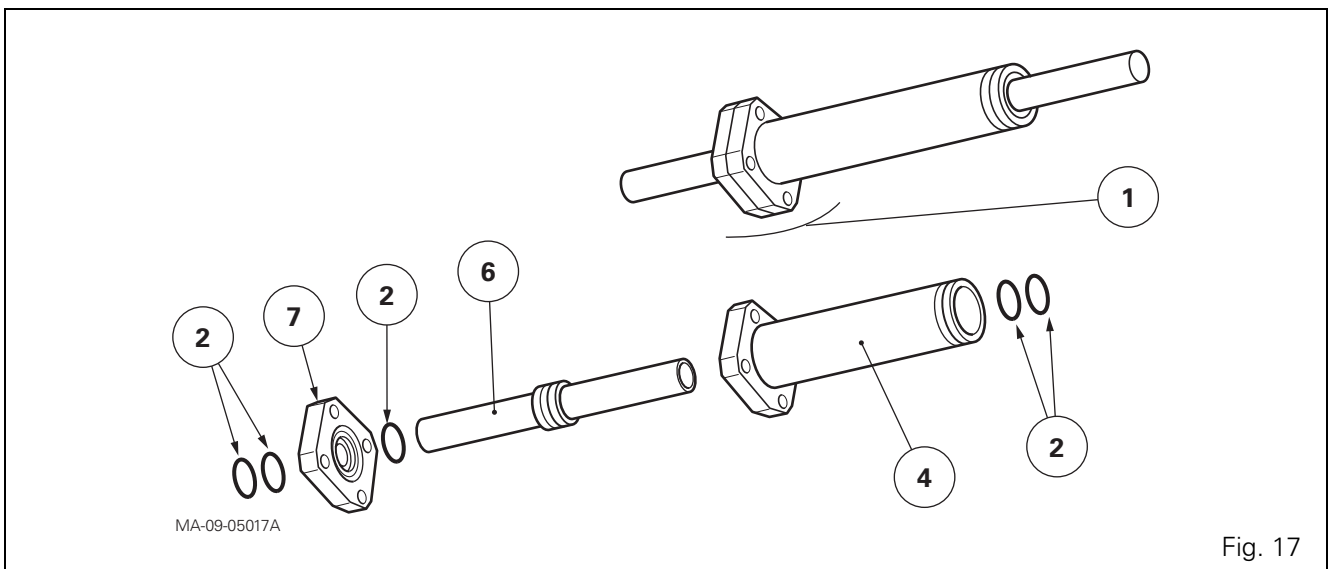
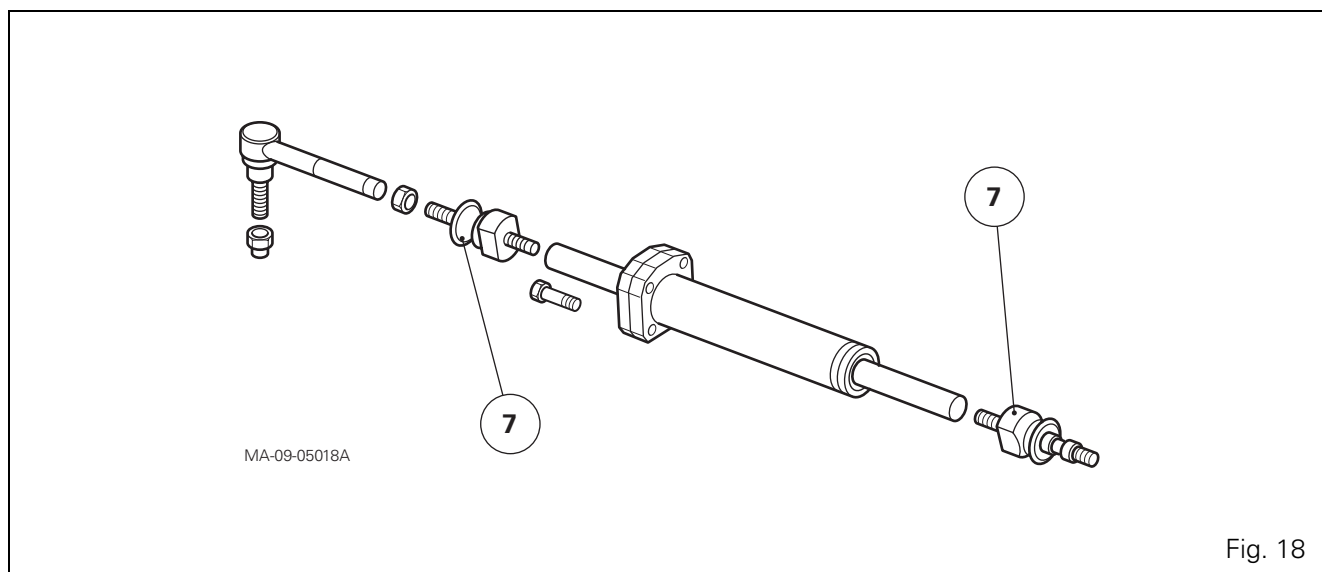

Fig. 17
Fig. 18
Disassembly (Fig. 17)
The steering ram assembly (1) comprises the following parts (Fig. 17):
- (2) Pack of seals
- (4) Cylinder
- (6) Piston pin
- (7) Cover
- 45. Release and remove the ball joints (7) (Fig. 18).
- 46. Separate the cover (7) from the cylinder (4).
- 47. Take out the piston (6) from cylinder.
50. Fit the seals on the piston rod (6) cylinder (4) and the cover (7) respectively (Fig. 17).
52. Tighten and lock the ball joints (7) (Fig. 18) to the torque of 300 Nm.